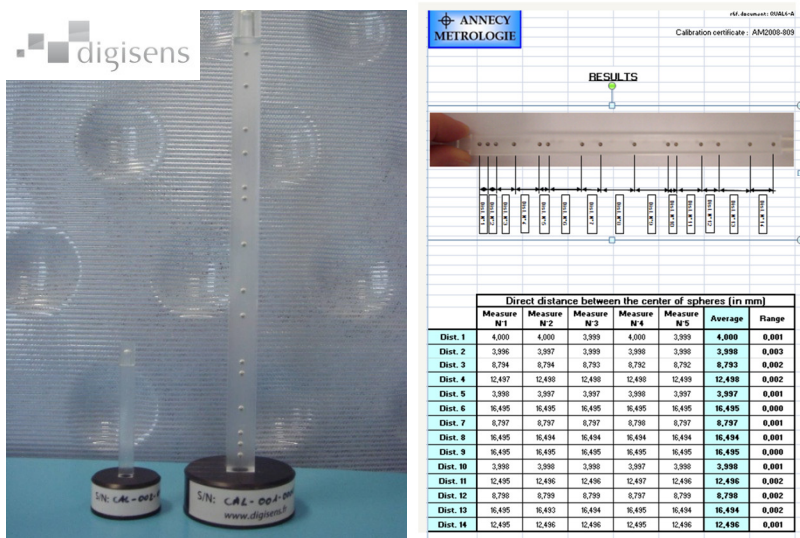

Figure 3.10: Calibrated probes.
- As an option: calibrated probes with metrology inspection report (see figure 3.10). The probe and the report are unique. Those probes have two advantages: the tomography system is linked to metrology national references; they provide a simple tool for system calibration follow-up. The design is unique. Thus, calibration tool is able to automatically detect spots and provide the user with the right probe size using the button `Guess probe`. Using such tool provides a calibration repeatability lesser than 5µm, whatever system focal and user settings.